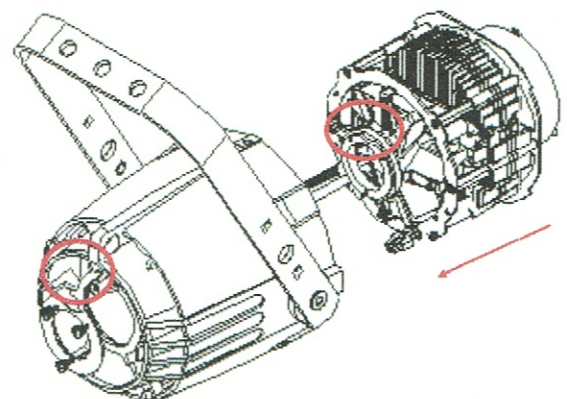

Fig.3
6. Accommodate the fEEbEE LED Engine in the Source 4 body. Ensure the correct inward direction is followed as remarked by the two red circled references. Also make sure to follow the red arrow direction as shown in figure 3. During such operation make sure that the three connecting cables (i.e. power cable, DMX cable and display cable) are not squeezed, while being fed through loop-holes during reassembling of the unit.